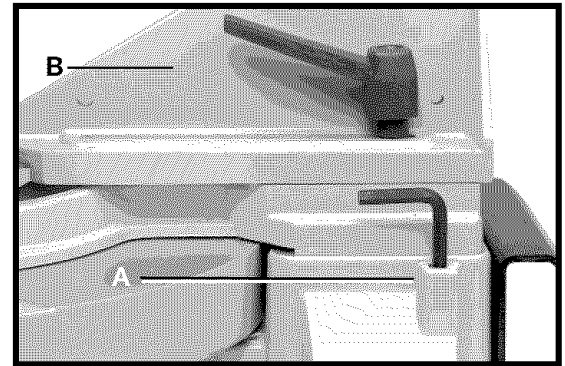

Fig. 15
The hex wrench storage (A) Fig. 15 is located immediately behind the sliding fence (B).